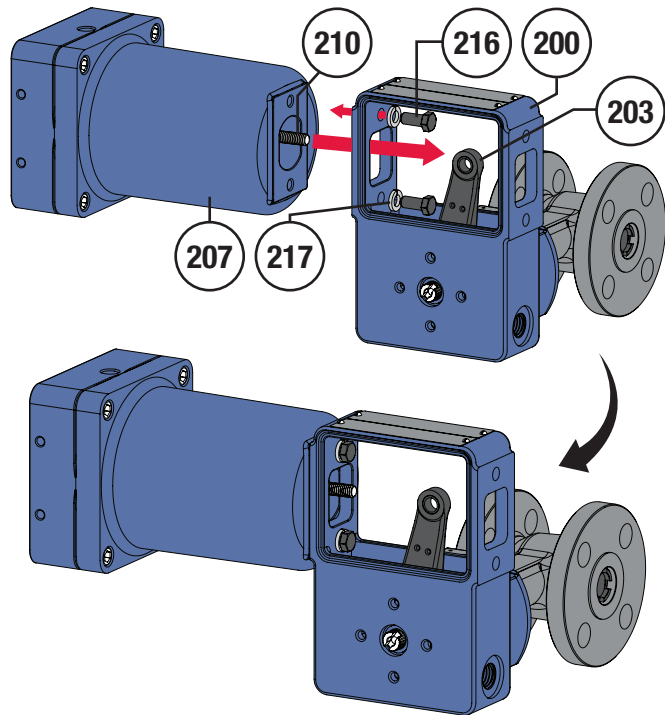

Figure 53 Spring Barrel Assembly Installation
- 2 Secure the spring barrel assembly to the appropriate yoke (Key 200) mounting pad using the cap screws (Key 216) and lock washers (Key 217), tighten the cap screws completely. Refer to Figure 53. **NOTE:** When mounting the spring barrel assembly, it is important to consider the placement of vent holes and tubing paths to reconnect instrumentation.